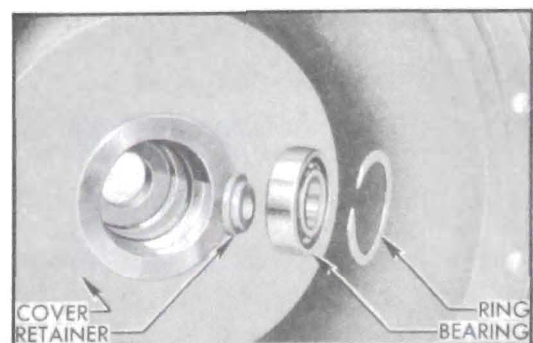

Figure 4-19—Pilot Bearing and Retainers
6. Pry the pilot bearing retaining ring out of its groove in hub of converter pump cover, then push the pilot bearing and bearing retainer out of the hub. See figure 4-19.
1. Place the input shaft pilot bearing retainer in the hub of converter pump cover with the shouldered side upward, push the pilot bearing into hub of cover until the outer race bears against the shoulder in hub, then install retaining ring. See figure 4-19.